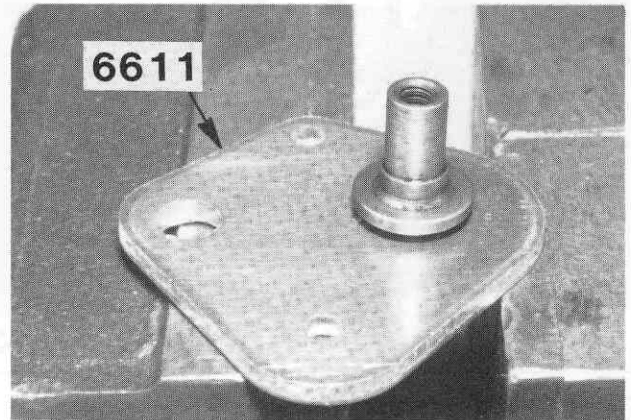

Fig. 29
□ **Fig. 29** Take the #6611 aluminum spine plate out of the bag. Using a vise, or a piece of wood with a 1/4" hole in it, carefully tap the pivot into the plate. Make sure the pin is centered with the slots in the plate, and that the flange of pivot is flush against the surface of the plate.